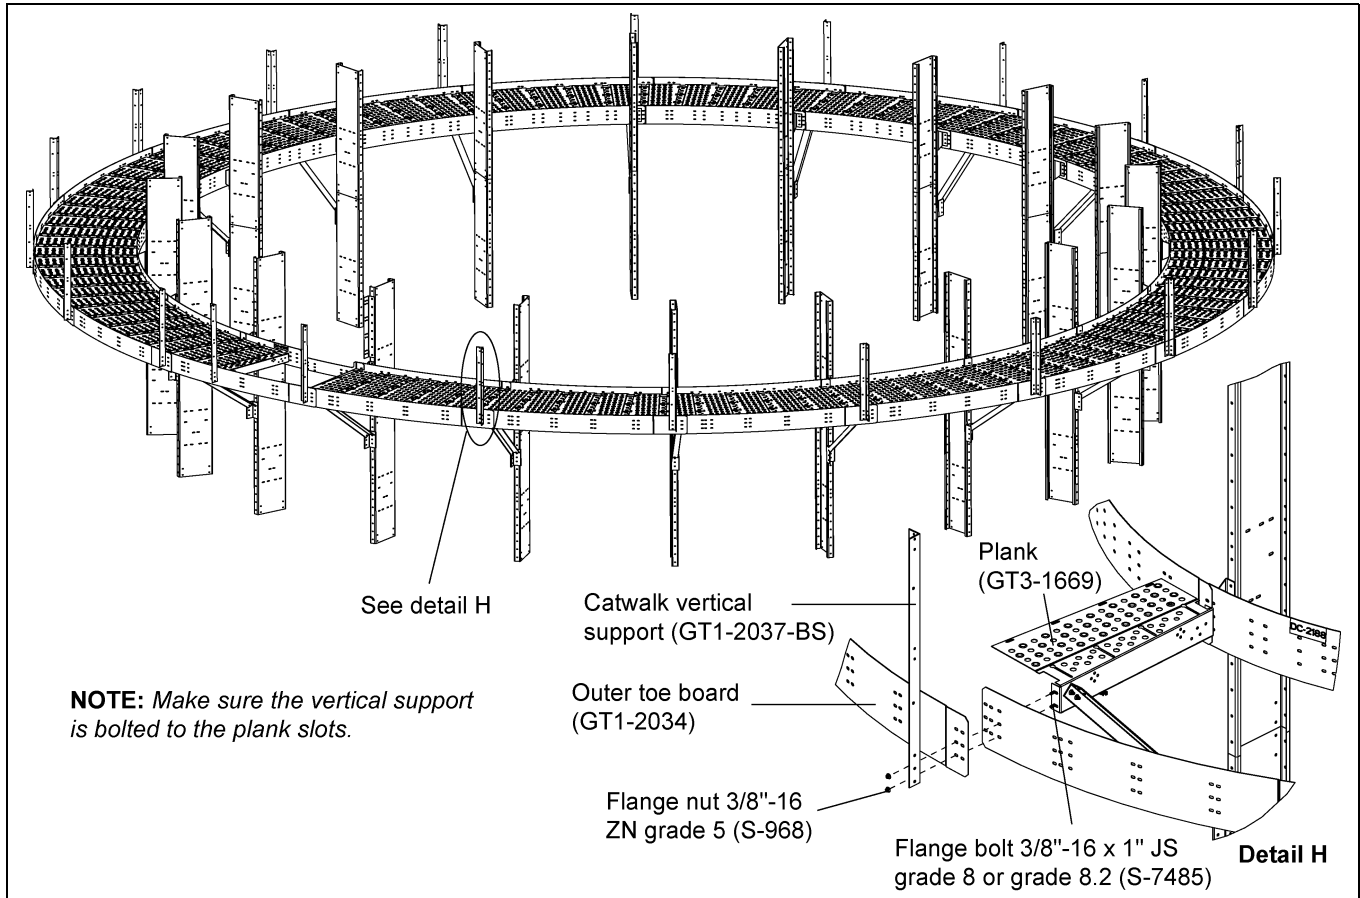
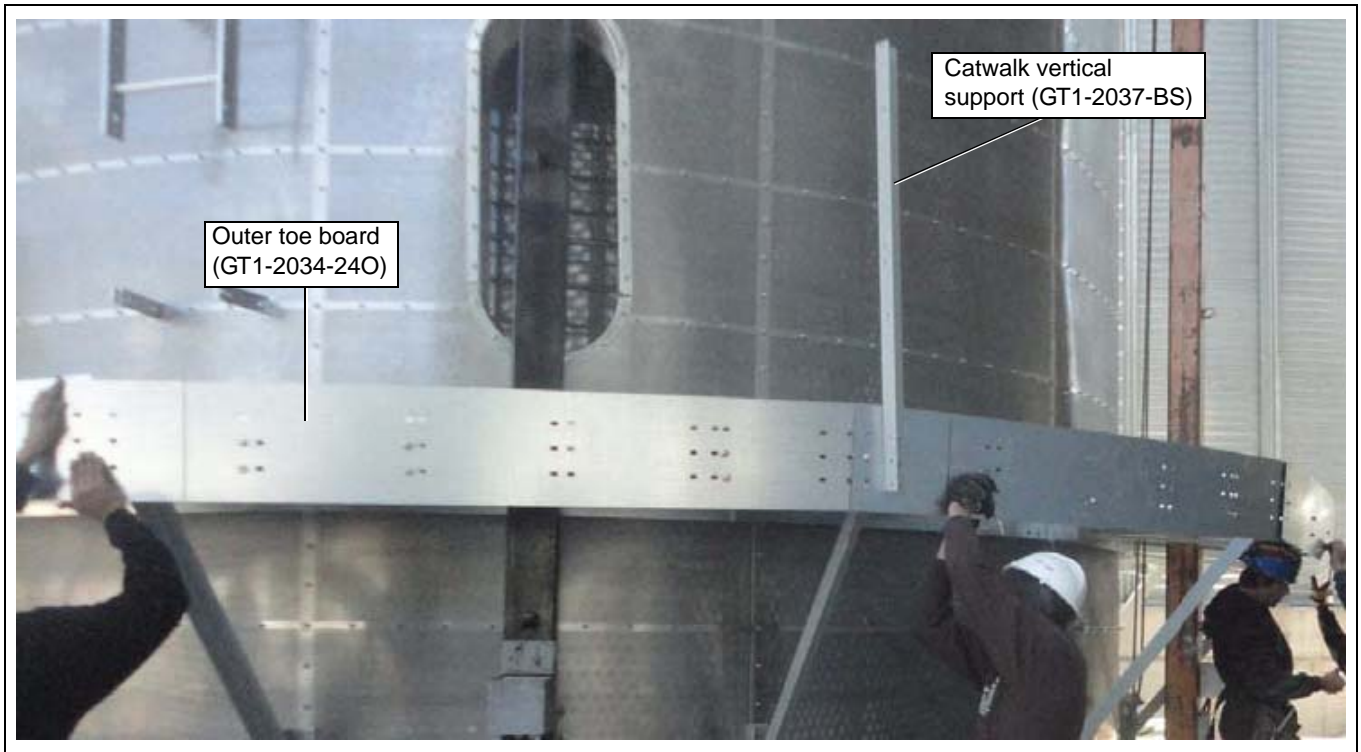

Figure 4R
Figure 4T
1. Install all the outer toe boards (GT1-2034-240) to the planks (GT3-1669). (See Figure 4R.)
2. When installing the outer toe board with planks, install the catwalk vertical support (GT1-2037-BS) simultaneously at proper locations using 3/8"-16 x 1" JS grade 8 or grade 8.2 bolts (S-7485) and 3/8"-16 ZN grade 5 nuts (S-968). (See Figure 4R and Figure 4T on Page 25.)